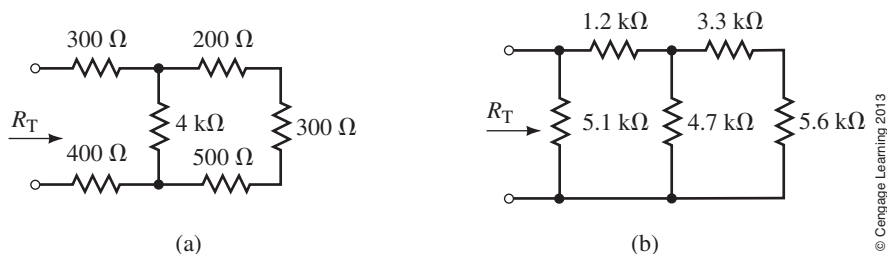

FIGURE 7-50
7. Determine the total resistance of each network in Figure 7-50.